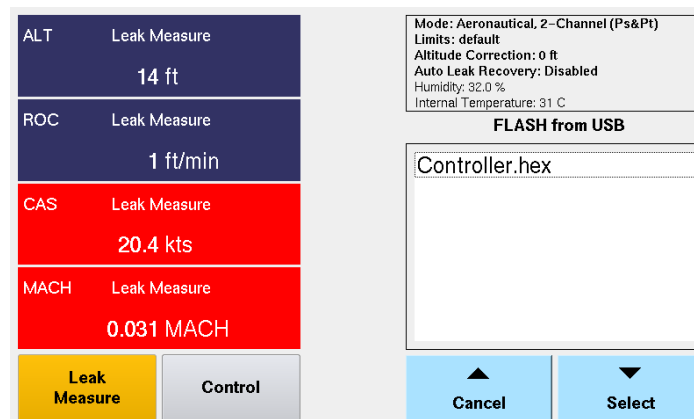

Figure 15 Flash Drive Screen
18. Select the desired file from the list. Press **Select** Key (Fig. 15).